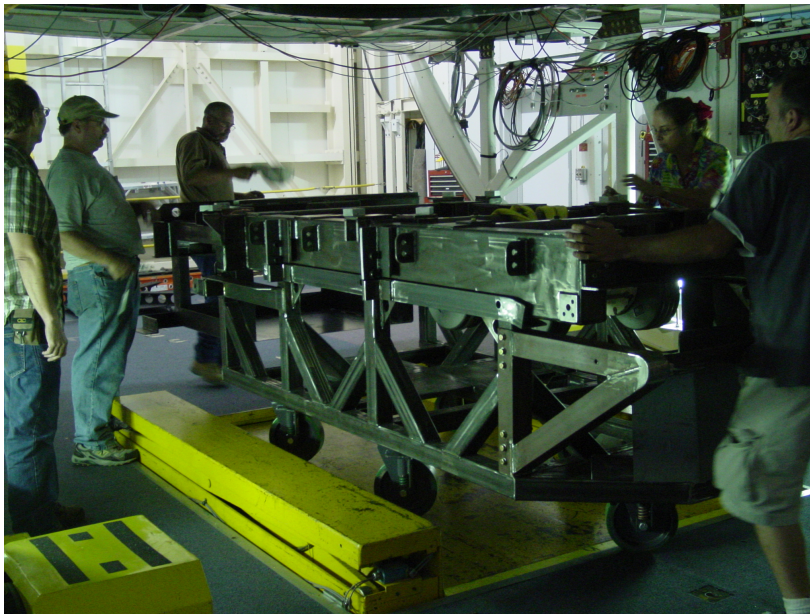

Figure 8
18. Wheel the assembly under the telescope counterweight end first. See Figure 8.